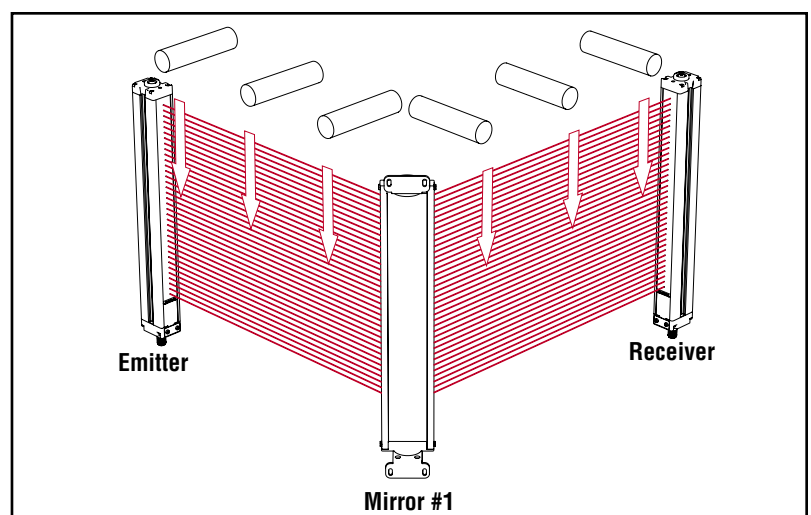

Figure 2. EZ-SCREEN System trip test for corner mirror applications
- **If corner mirrors are used in the application,** the beams must be tested in three places on *each leg of the beam path* (between emitter and mirror, and also between mirror and receiver, Figure 2).